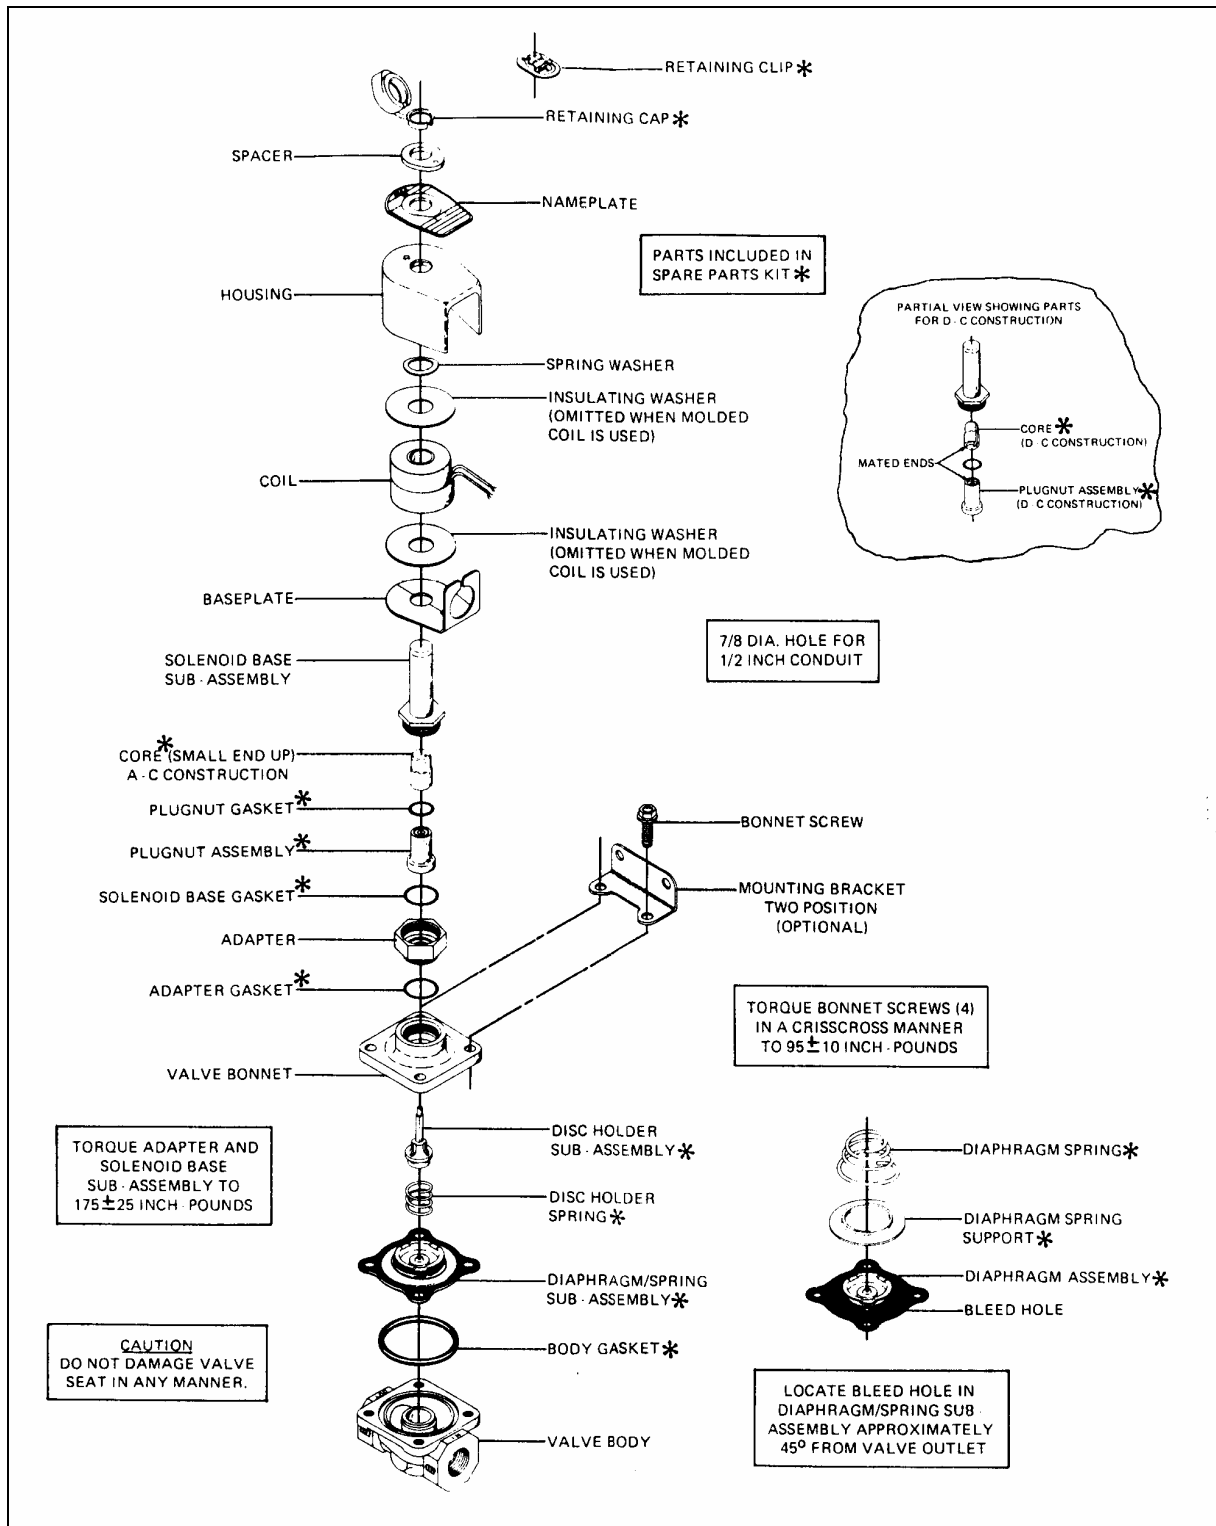

FIGURE 45: DRIVER'S WATER SOLENOID VALVE
3. Disassemble valve in an orderly fashion paying careful attention to exploded view (Fig. 45) provided for identification of parts.
exploded view provided for identification and placement of parts (Fig. 45).